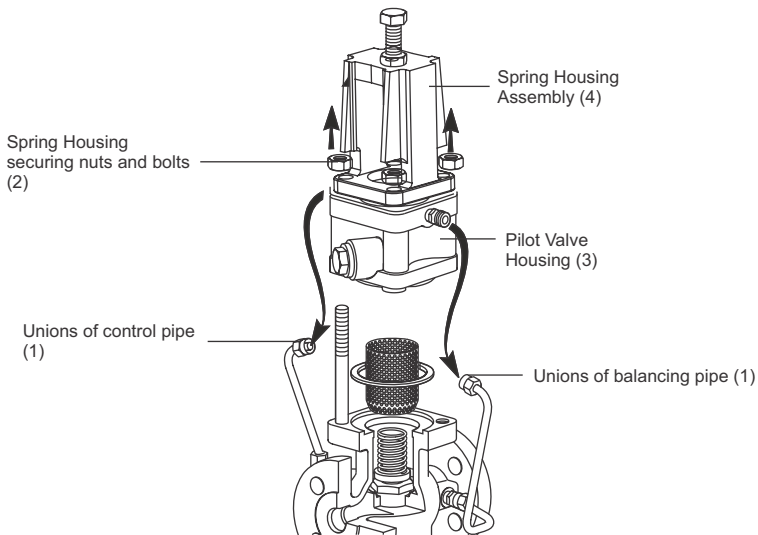

Figure 13 : DSPRV41
1. Undo the long union nut (1) and pull away.
2. Undo the M12 nuts and bolts (2).
3. Drop away the lower diaphragm chamber (3), the two main diaphragms (4), diaphragm plate (5) and the pushrod assembly (6).
4. Thoroughly clean the lower diaphragm chamber (3) making sure contact faces are clean.
5. Replace the diaphragm plate (5) and pushrod assembly (6) and loosely fit the lower diaphragm chamber (3) on two bolts either side of the union connection (See Figure 13(b)) so that the spigot is located in to the recess.
6. Bring the two new diaphragms together and slide into position (See figure 13(b)). If the diaphragms are not renewed, but cleaned only care must be taken to replace the diaphragms in their original order.
7. Push the lower chamber (3) and tighten the M12 nuts and bolts (2). Progressively and evenly tighten to a torque of 80 - 100 Nm (See Figure 13(c)).
8. Retighten the long union nut to ensure a steam tight seal. (See Figure 13(c)).
Where a new part has been fitted it will be necessary to reset the main valve pushrod to give the correct valve lift: (Refer to Figure 13)